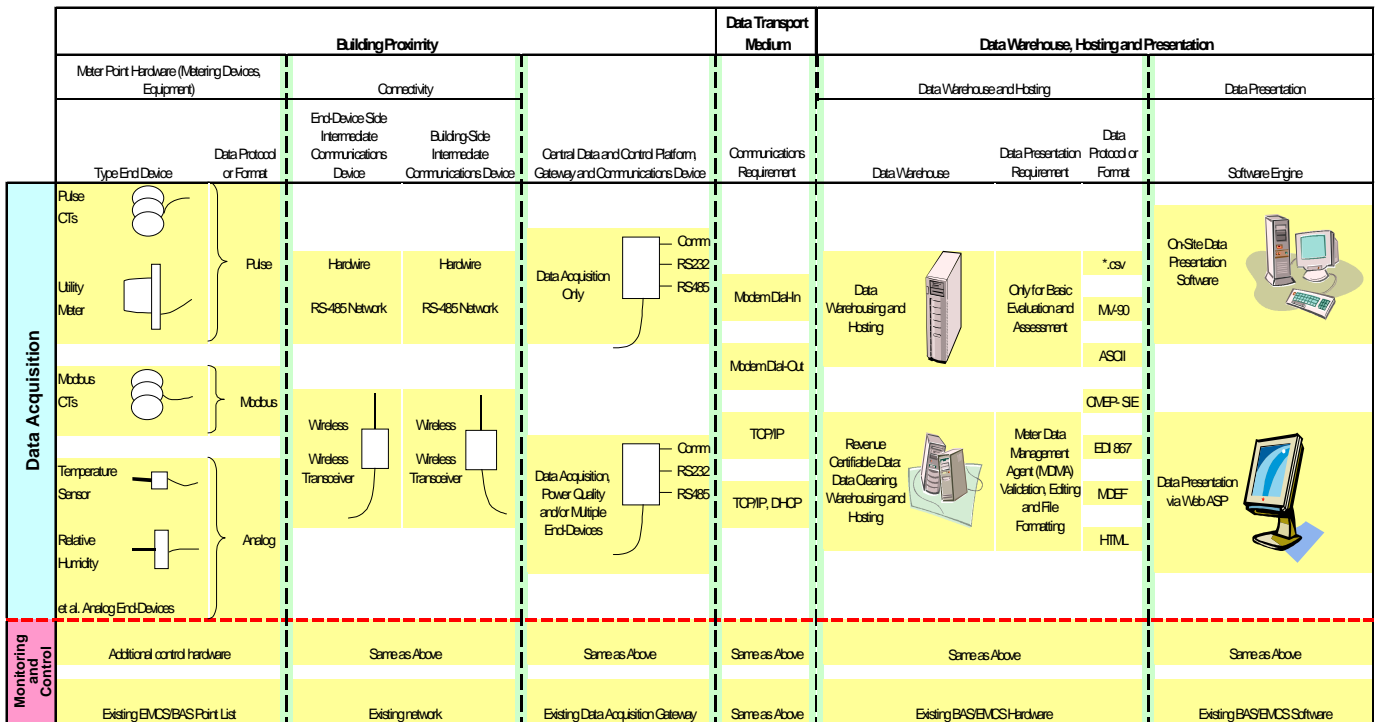

Figure 3., Components of a Data Project.
- When developing a data project, "each" meter point must be assessed to determine what data is required and what the data will be used for, as previously mentioned. As one can see from Figure 3., there are also several options within each component. The next decision path in developing a data project is to determine which of the different options within each of the five components will best meet the overall needs and costs of the project for each meter point.